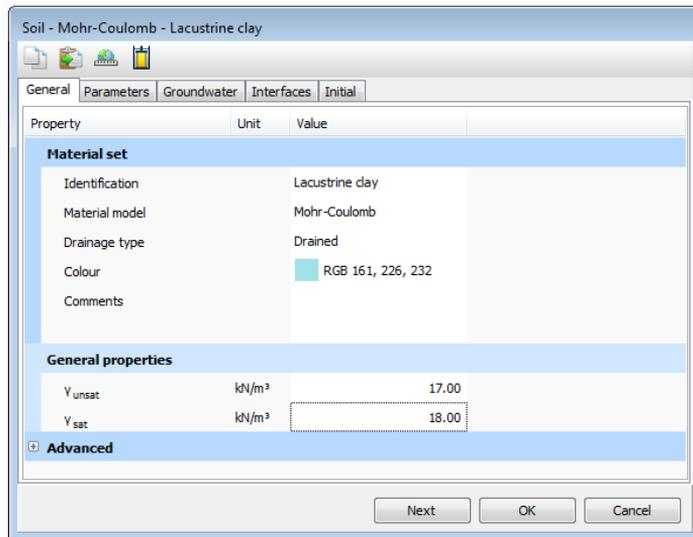

Figure 1.6 General tabsheet of the Soil and interfaces data set window
- In the *Material set* box of the *General* tabsheet (Figure 1.6), write "Lacustrine Clay" in the *Identification* box.